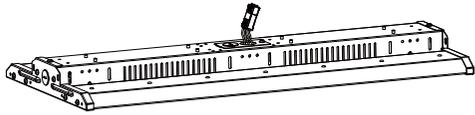
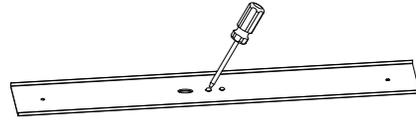

Figure15
Figure16
Step1. Knock off the knockout hole on the back of the fixture, take out the wires from the knockout hole (Figure. 15), open the front cover of the fixture, and knock out the two knockout holes on the cover (Figure. 16);